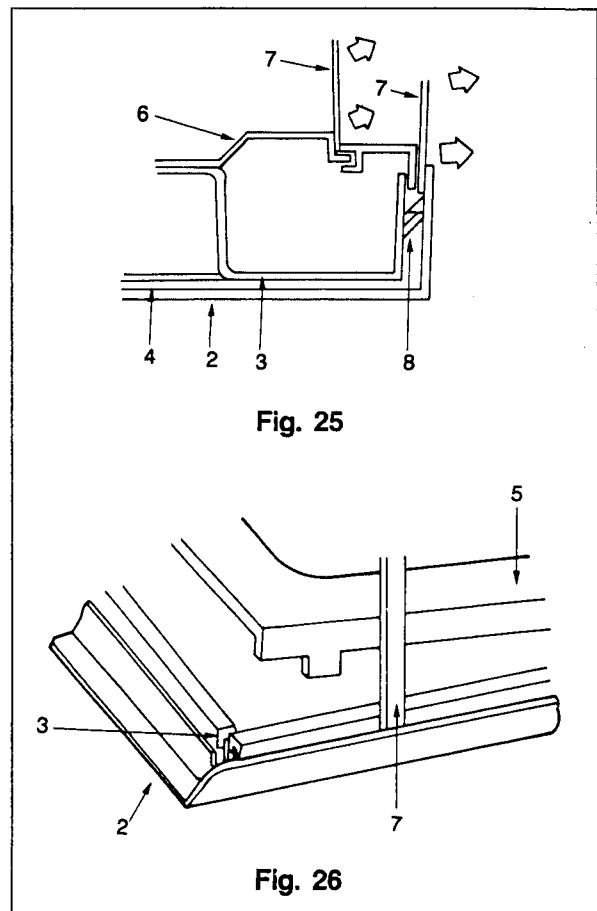

Fig. 25
- 2) Remove three screws ① which secure the door weld assembly ③.
- 3) Disengage four insides of door cover ⑤ from the door seal ⑥ of door weld assembly using with a thin metal plate or screw driver ⑦ as indicated (refer to Fig. 25).
- 5) Disengage three insides of door frame ② from the projections ⑧ of door weld assembly using with a thin metal plate or screw driver ⑦ as indicated (Refer to Fig. 25, 26)
- 7) Detach outer barrier ④.